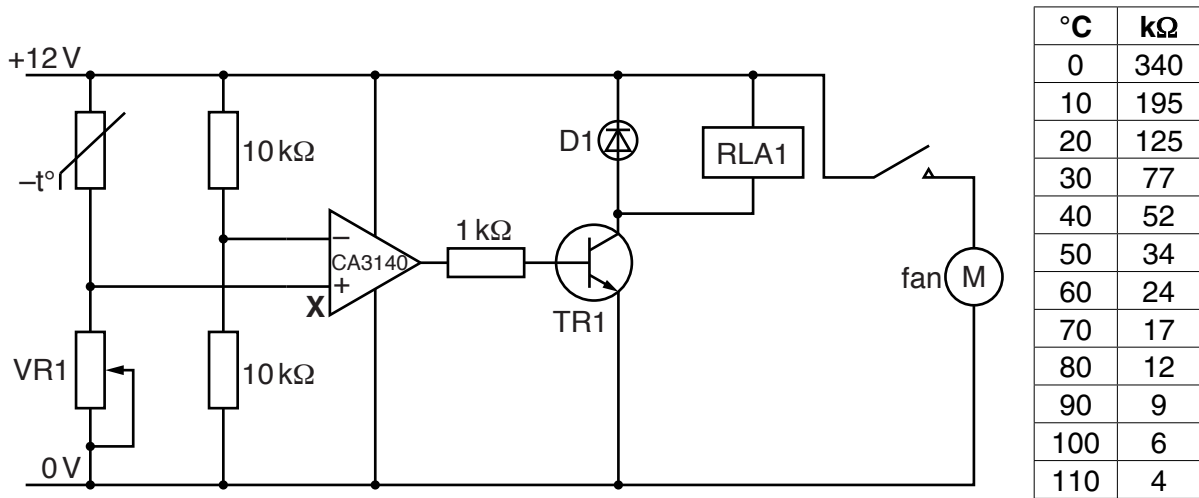
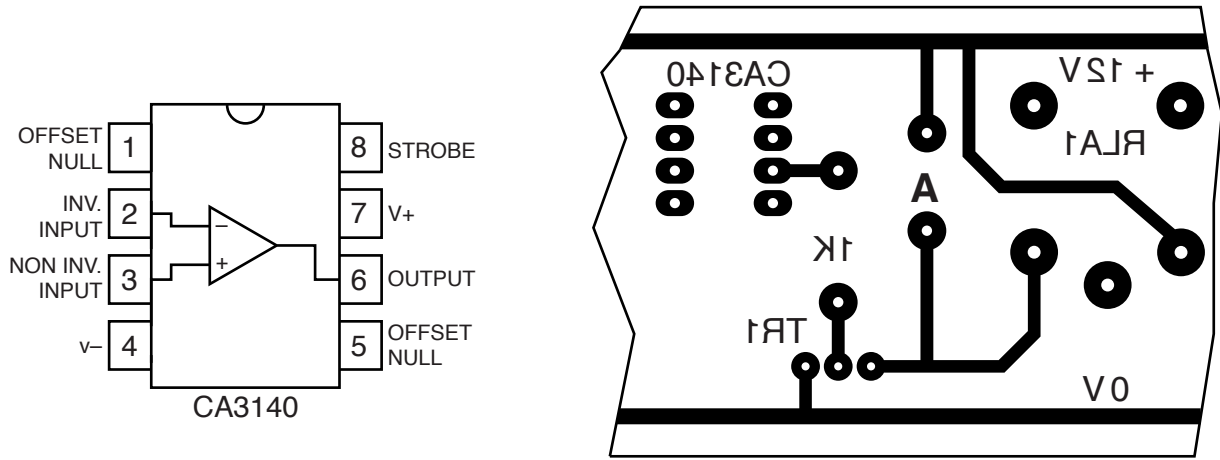

Fig. 22
Fig. 23
(c) Fig. 22 shows the circuit for controlling a car engine cooling fan.
- (v) Fig. 23 shows the pin diagram and part of a printed circuit board (PCB) layout for the operational amplifier.
- (vi) Use information from Fig. 22 to give the name of the component that fits in space A on the PCB in Fig. 23.